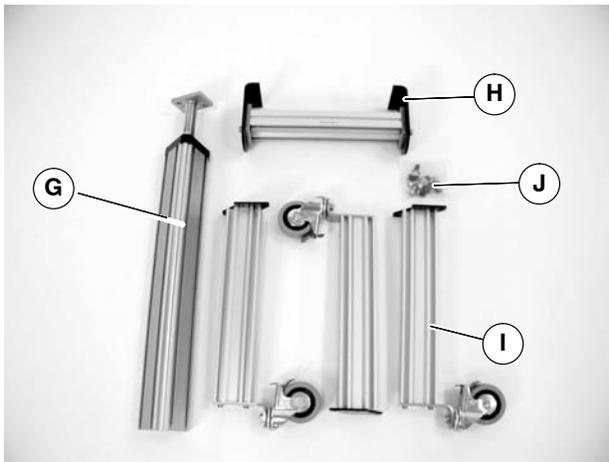

Figure 3
1. Typical components (Figure 3).
2. Open hardware pack, single post stand (J of Figure 3).